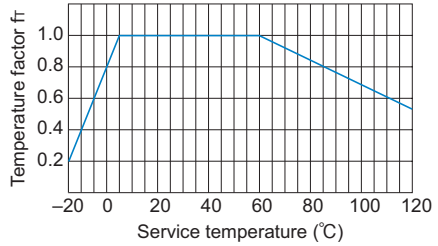

Fig.2 Temperature factor
If the temperature of the spline nut exceeds the normal temperature range, the seizure resistance of the nut and the strength of the material will decrease. Therefore, it is necessary to multiply the dynamic permissible torque (T) and the dynamic permissible thrust (F) by the corresponding temperature factor indicated in Fig.2. Accordingly, when selecting a spline nut, the following equations need to be met in terms of its strength.
- f_T : Temperature factor (see Fig.2)
- F : Dynamic permissible thrust (N)
- P_F : Axial load (N)